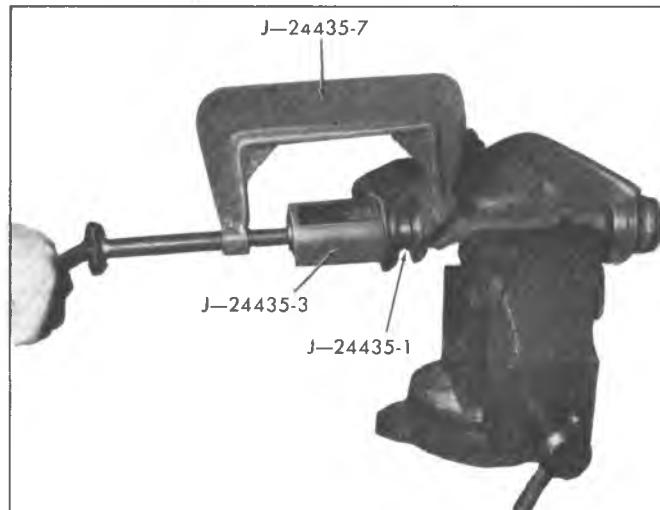

Fig. 32A—Upper Control Arm Rubber Bushing Removal
**Upper Control Arm Inner Pivot Shaft and/or Bushing Replacement****C10, G10-20 (Rubber Bushings)****Removal (Fig. 32A)**
2. Install remover J-24435-1, receiver J-24435-3 and "C" clamps J-24435-7 as shown in Figure 32A.